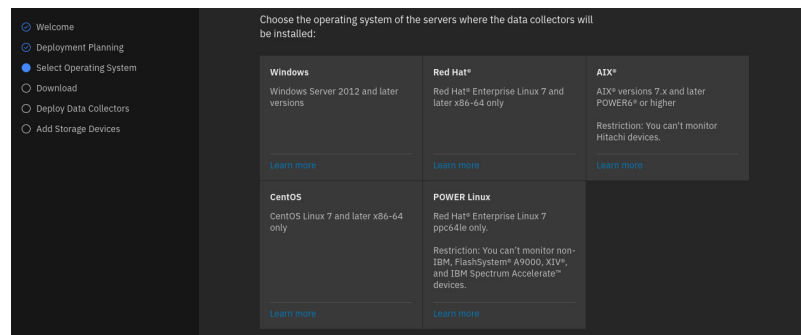

Figure 9-32 Select Operating System window
1. Select the candidate operating system of the host that will be used to install the data collector, as shown in Figure 9-32.